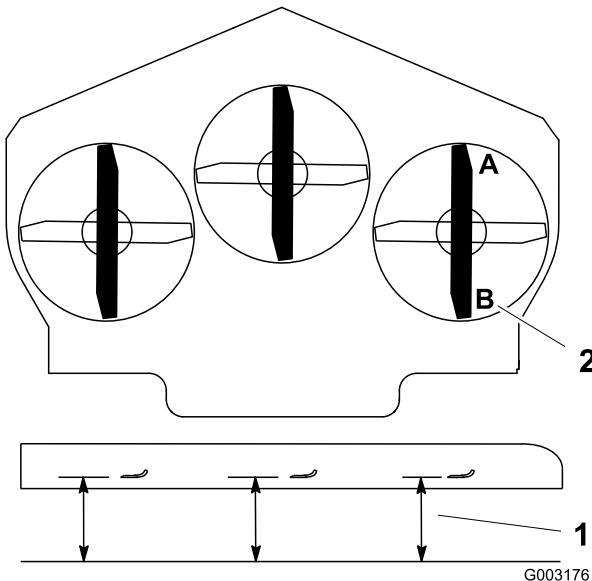

Figure 77
1. Position the right blade front-to-rear (Figure 77).
2. Measure the right blade at the **A** location, from a level surface to the cutting edge of the blade tip (Figure 77).
4. Measure the right blade at the **B** location, from a level surface to the cutting edge of the blade tip (Figure 77).
6. The mower blade should be a 1/4 to 3/8 inch (6 to 10 mm) lower at position **A** than at position **B** (Figure 77). If it is not correct, proceed to the following steps.